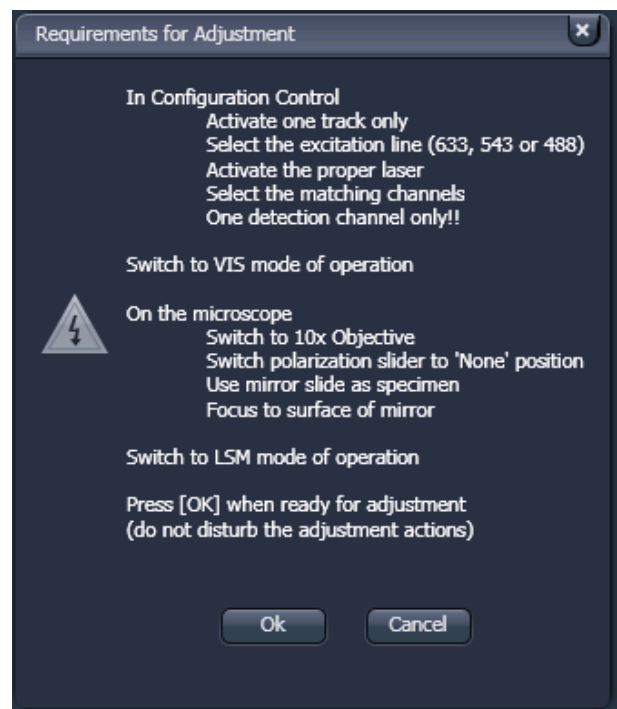

Fig. 158 Requirements for Adjustment window
- Meet the requirements listed in the **Requirements for Adjustment** window (Fig. 158). Press **Cancel** to abort the automatic pinhole adjustment. Press the **OK** button to proceed.